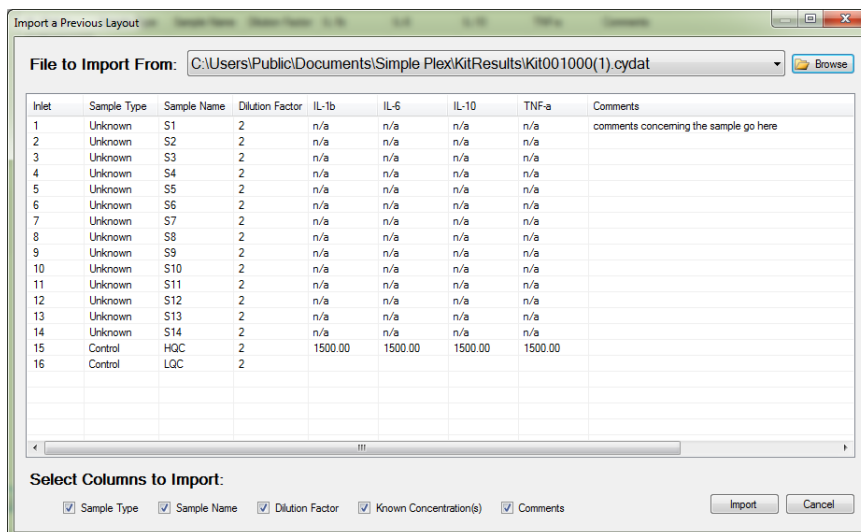

Figure 3-20: Import a Previous Layout screen.
- **Importing data from previous runs:** If your inlet assignments will be similar to a previously run kit, you can click **Import** and **From Previous Kit Results File**. Then select the previously run CYDAT file, and specify only the particular columns of the previous layout you want to use for the present one by utilizing the check boxes as shown in Figure 3-20.